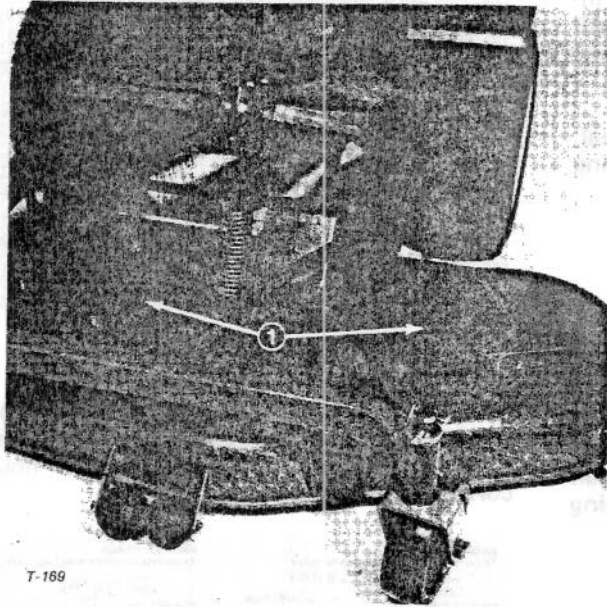

Figure 116
2. Remove capscrews and lockwashers securing pulley cover on top of spindle housing to be serviced (Fig. 116). Also remove cover over idler pulley (Fig. 116) and loosen two nuts securing idler plate in place. This will release tension on the drive belt.